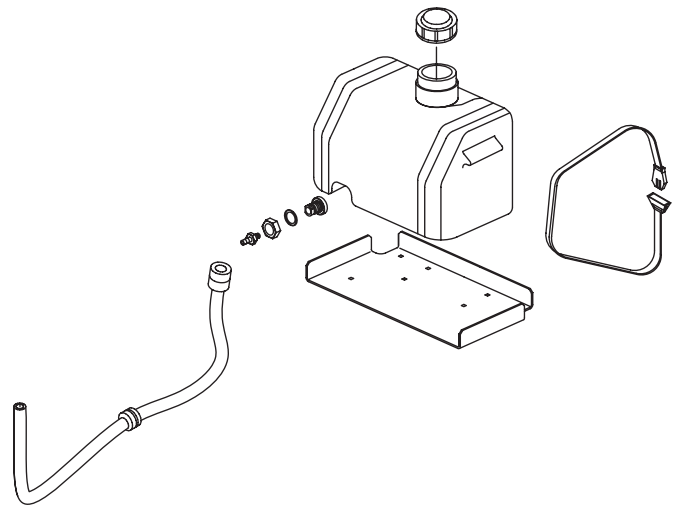

Fig. 1
5. Mount the gas tank using the 2 – nylon hold down straps, pulling tension on the buckles until secure. Attach the quick coupler, on the end of the fuel line, to the bottom of the tank. (See Fig. 1)